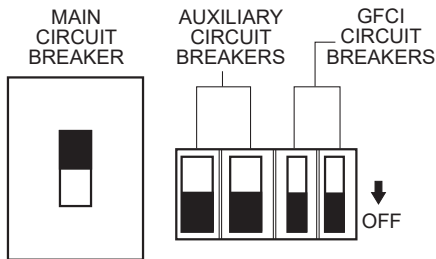

Figure 40. Main, Aux. and GFCI Circuit Breakers (OFF)
1. Place the **main, GFCI, and aux.** circuit breakers (Figure 40) in the **OFF** position prior to starting the engine.